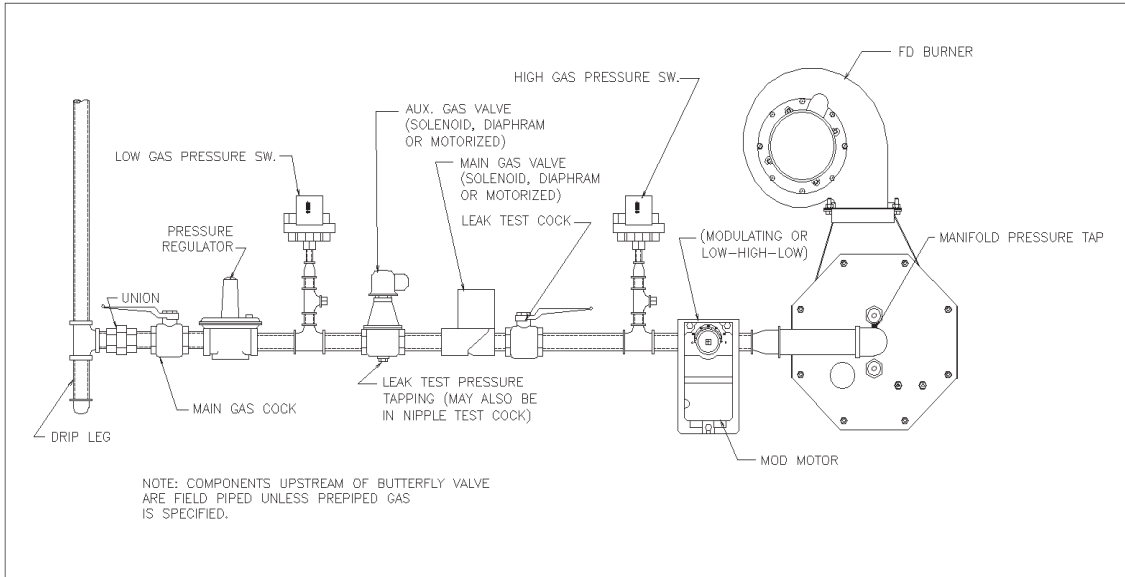

Figure 3: Typical UL Gas Piping Train for LHL or Modulating FD Burners
- 2.2.3 **Figure 3 and 4** are the typical U.L. required gas train configurations for the FD and FDM burners, respectively.